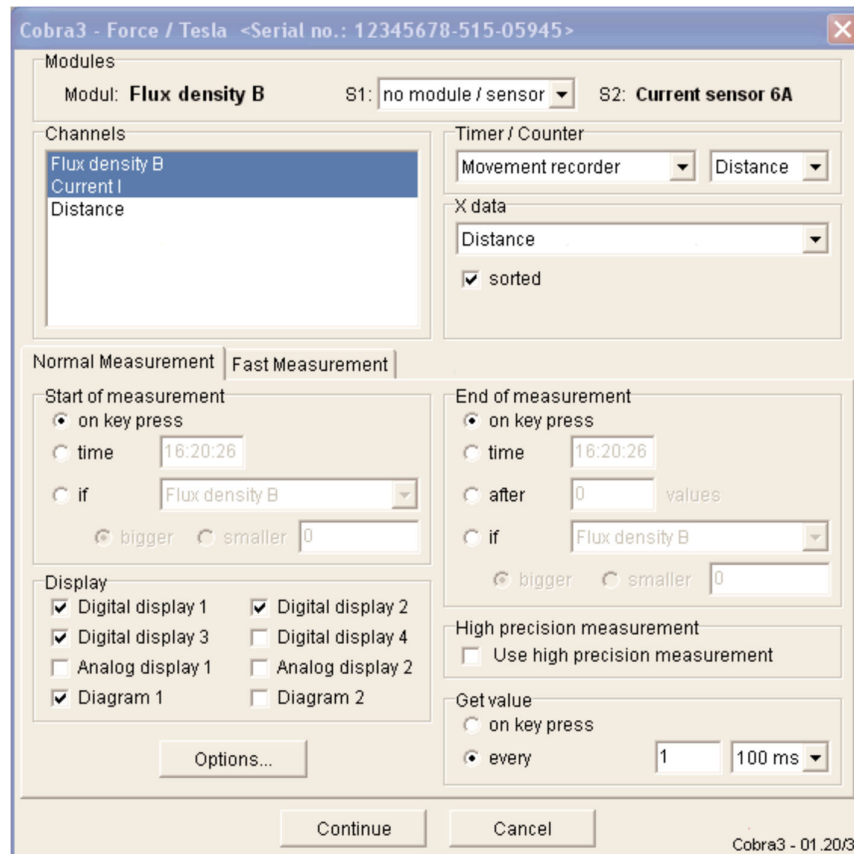

Figure 4: Force / Tesla settings
4. Connect the Cobra3 unit to the PC USB port and start the **Measure** program. Select **Gauge > Cobra3 Force / Tesla** and set the parameters as shown in Figure 4.